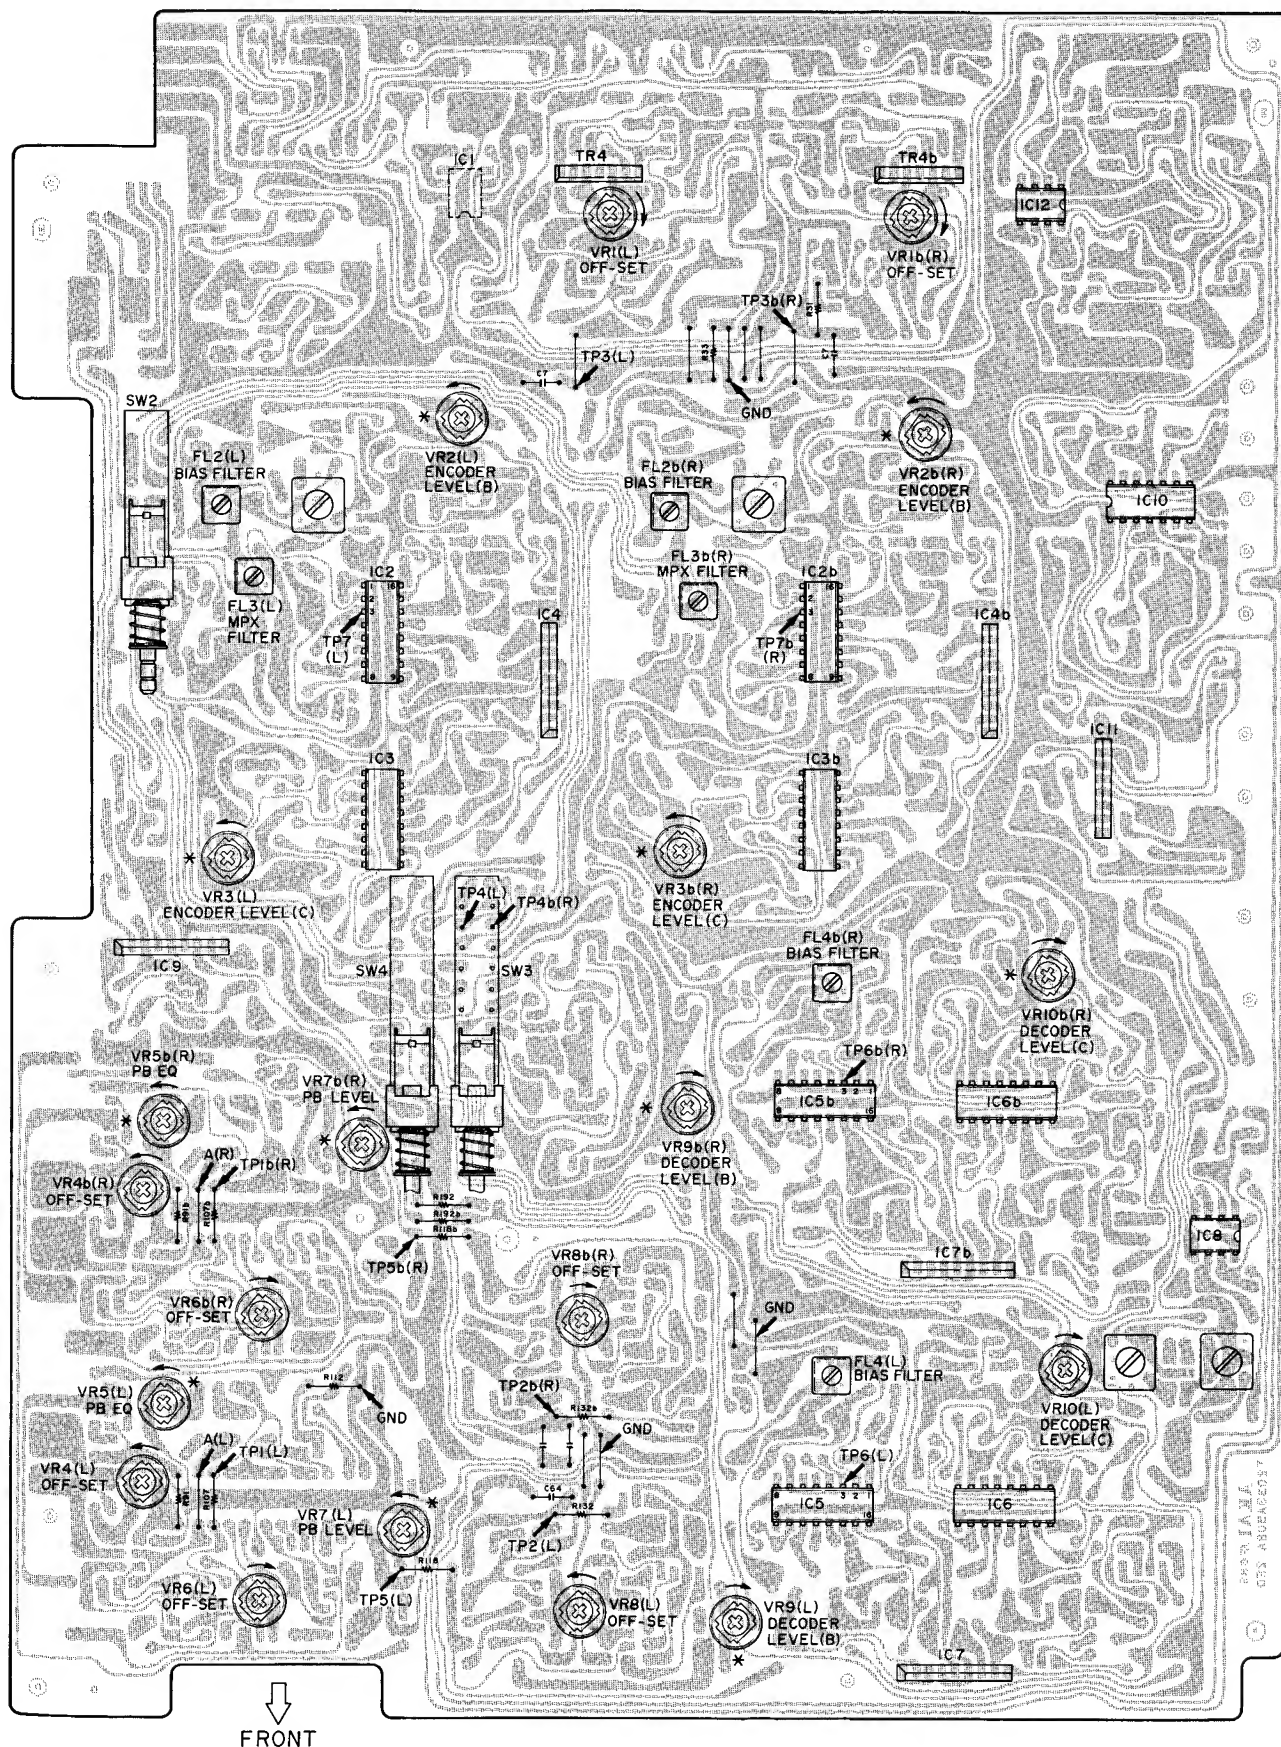

Fig. 2-16 Pre Amp PCB (Parts Side View)
1. PB DIFFERENTIAL AMPLIFIER OFF-SET VOLTAGE ADJUSTMENT (Fig. 2-16)
2. PB EQ AMP ADJUSTMENT (Fig. 2-16)
(Fig. 2-16)
(Figs. 2-16. 17)